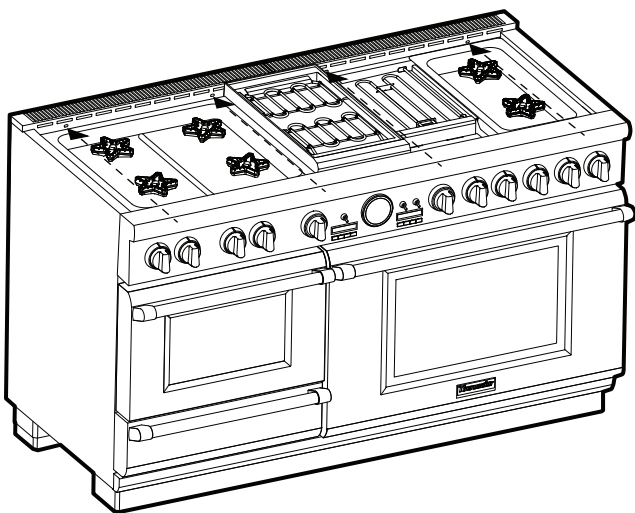

Figure 15: Flush Island Trim Front Face Screw Removal
1. Remove the T-20 Torx stainless screws in the front face of the included Zero Inch Clearance Trim (Figure 15).